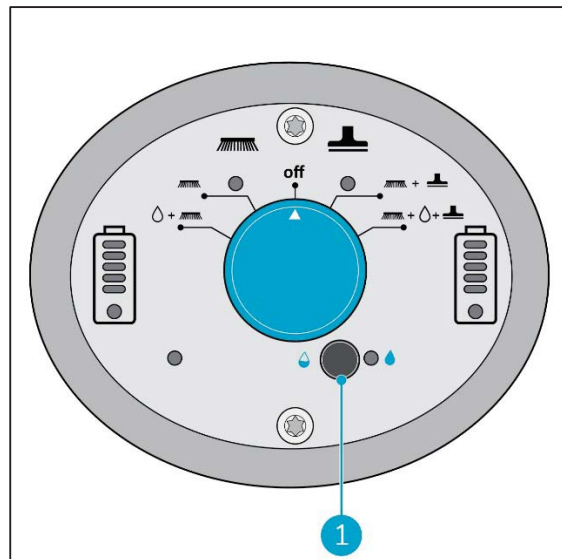

Figure 19
1. Turn on the ECO mode by pushing the ECO button, after you have selected your cleaning mode. (Figure 19, pos 1).